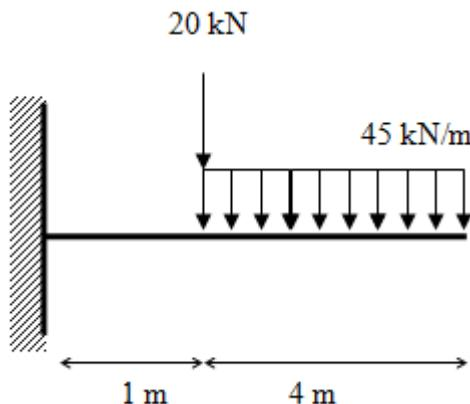

Figure B2(a) / Rajah B2(a)
- (a) Draw Free Body Diagram (FBD) based on **Figure B2(a)**.